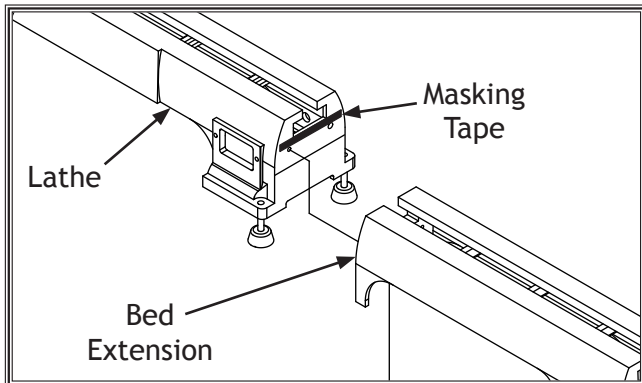

Figure 4. Shimming bed extension down.
- If bed extension tilts up, use masking tape along top edge of lathe to shim bed extension down (see **Figure 4**).